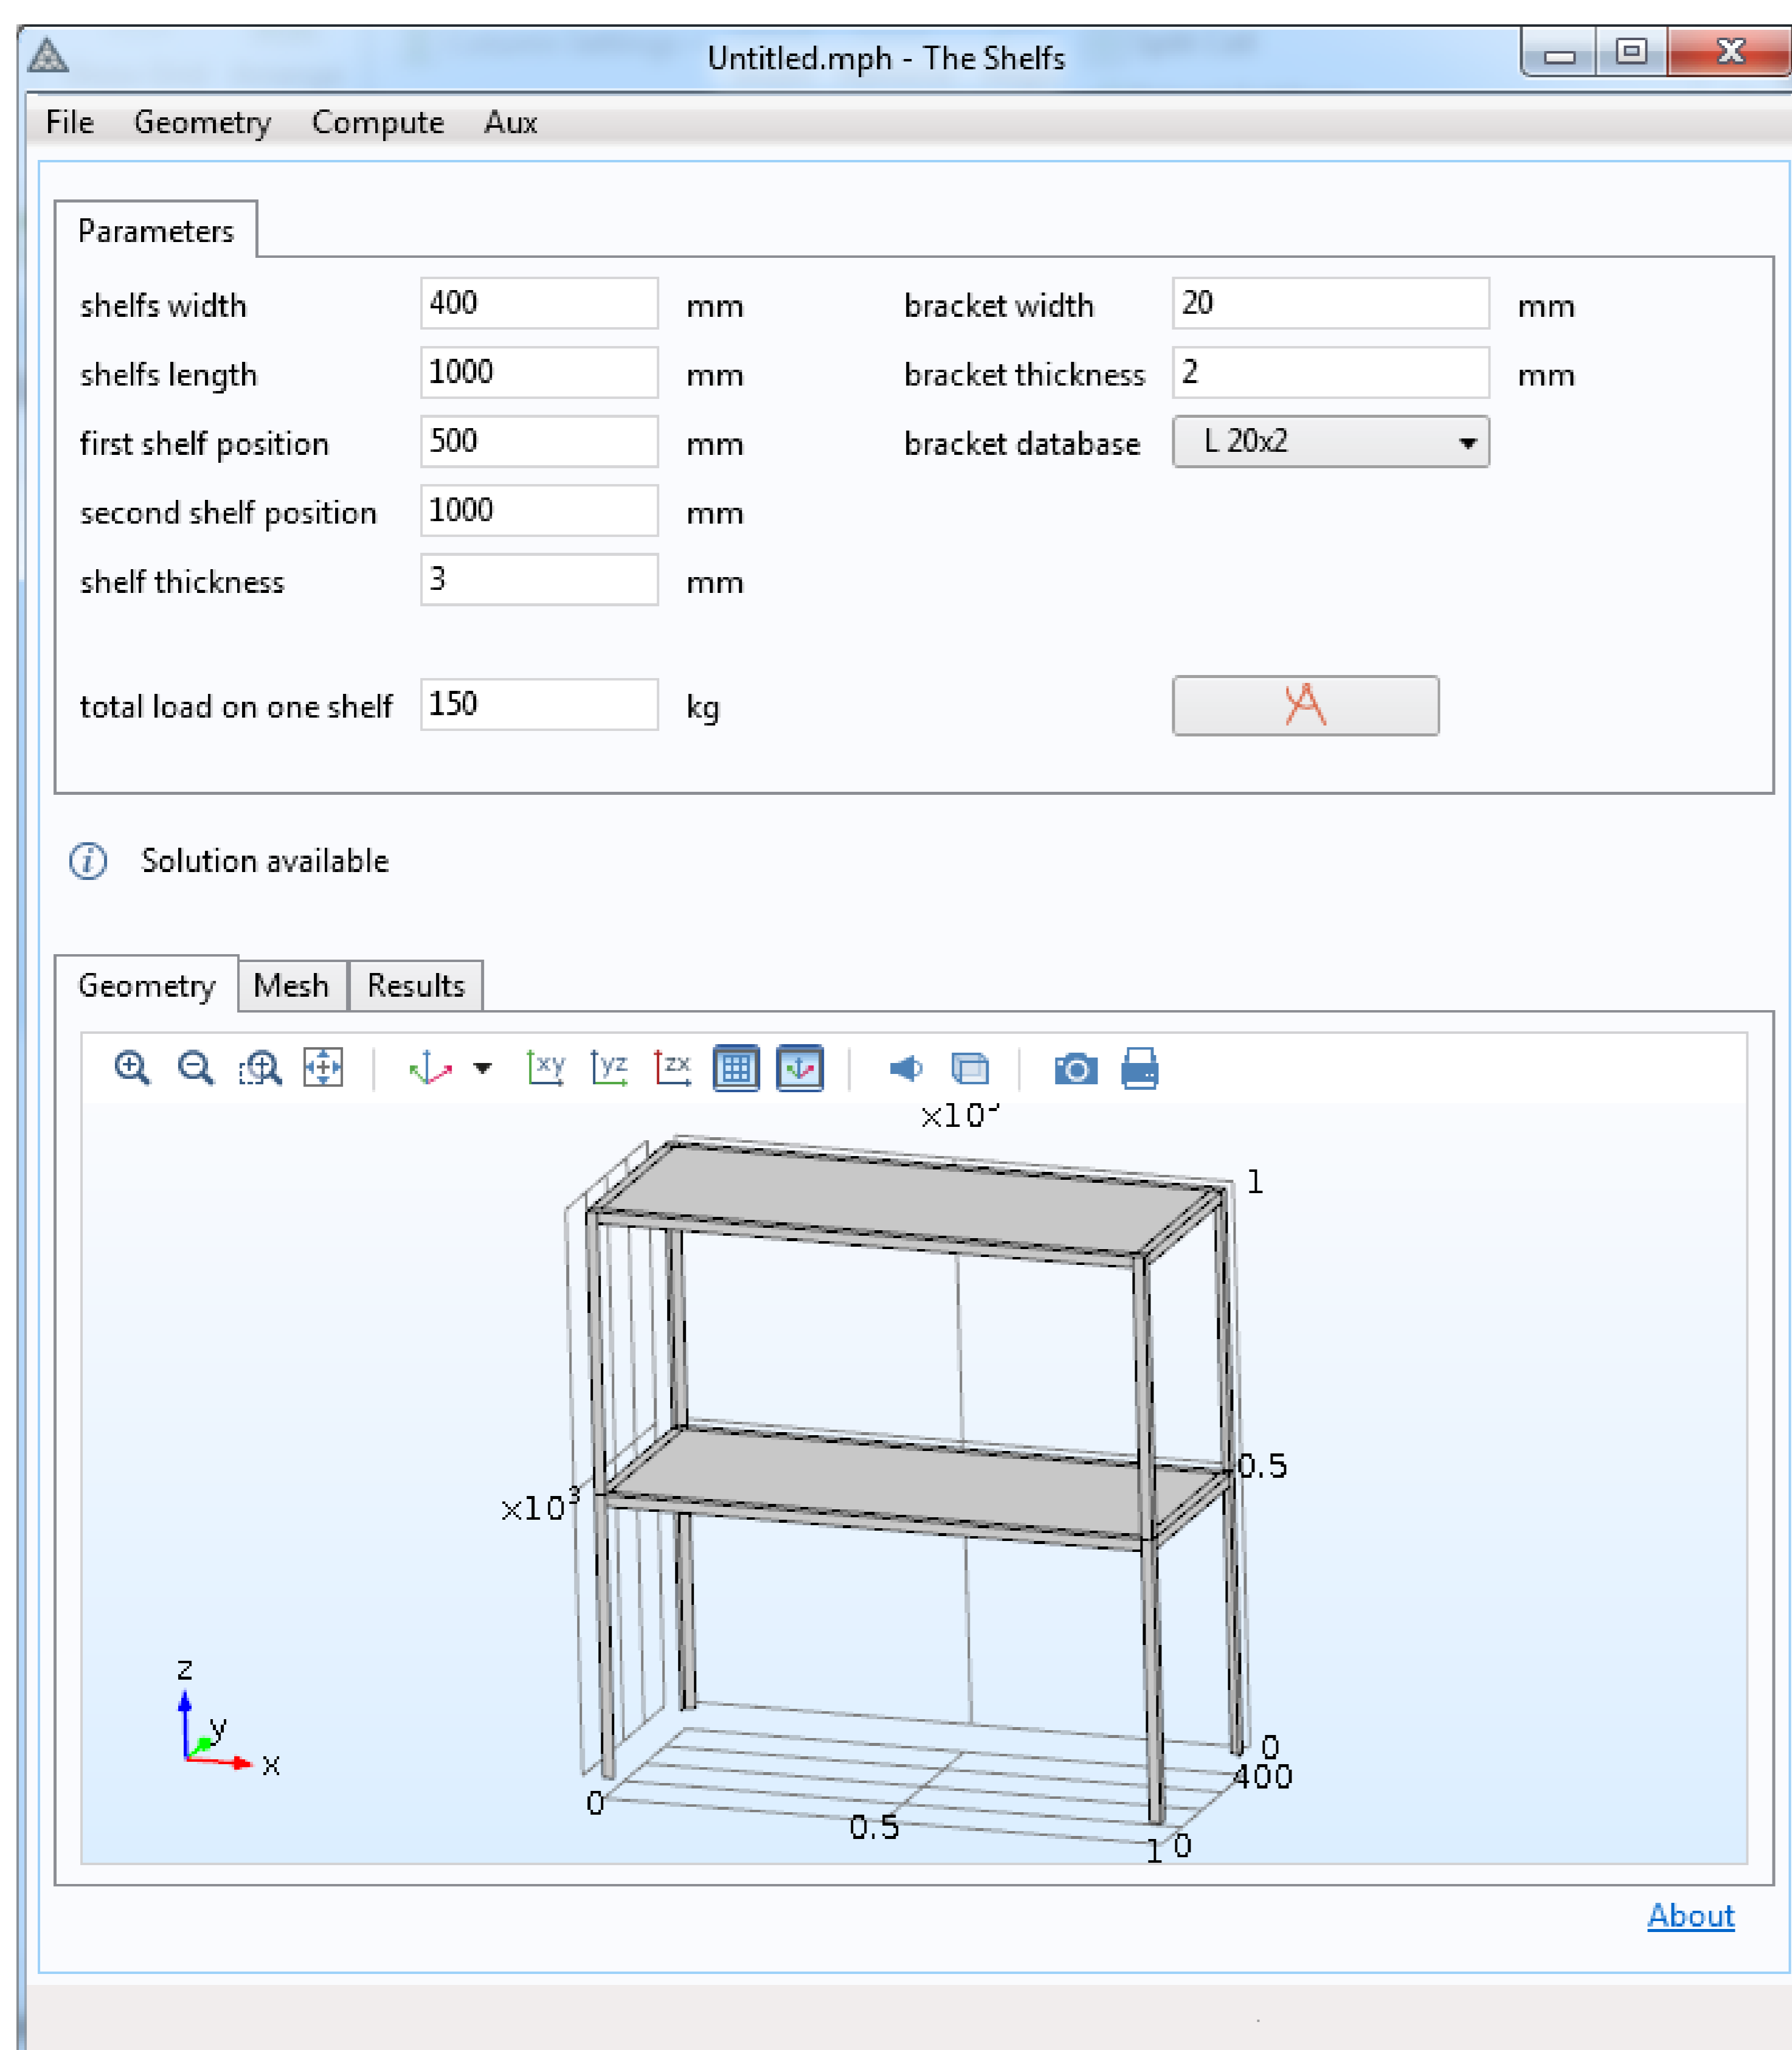

Figure 1. The application user interface
**The shelves parameterization:** The shelf dimensions, position of shelves, thickness and brackets are parameterized (Figure 1). The bracket sizes can be loaded from a text file and chosen by the user from a list. The modification of dimensions leads to information about an invalid solution, and new computations are needed (by pressing a shortcut or choosing a menu item).